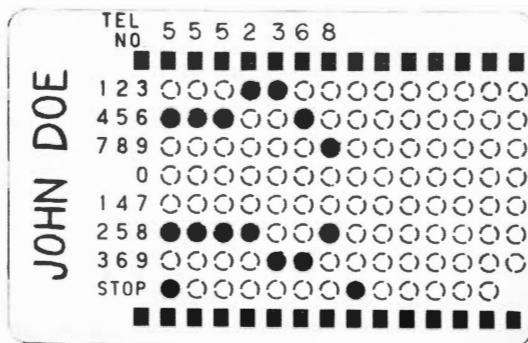
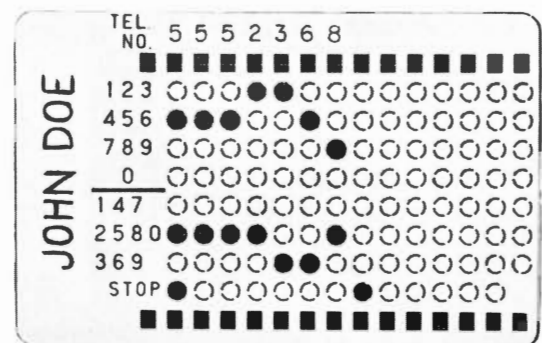

Fig. 3 — P-13E353 Card Coded for 7-Digit Telephone Number (555-2368)
Fig. 5 — P-24E238 Card Coded for 7-Digit Telephone Number (555-2368)
2.07 Card sets supplied with the set for use in the 40A dial are coded P-13E353 at the present time (Fig. 3 and 4). When stocks of this card are depleted, the P-24E238 card sets (Fig. 5 and 6) will be substituted. The cards differ slightly in number groupings and procedures for coding telephone numbers.
3.02 Coding instructions for cards (Fig. 3, 4, 5, and 6) are as follows:
(1) Write name and desired telephone number in spaces provided as shown in Fig. 3 and 4. Convert the two exchange letters to numbers by referring to the telephone dial. (For example: use 2 for A, B, or C.)
(2) There are two groups of numbers on the left side of the card (Fig. 3 and 4). On the P-13E353 card set (Fig. 3 and 4), the zero appears only once; on the P-24E238 card set (Fig. 5 and 6), the zero appears in both number groups.
(3) Each digit in the telephone number heads a column. For example: in Fig. 3 and 5, the first digit of the telephone number is 5. Locate the digit 5 in the first group of numbers and punch out the perforation with a pencil or ball-point pen. In the same column